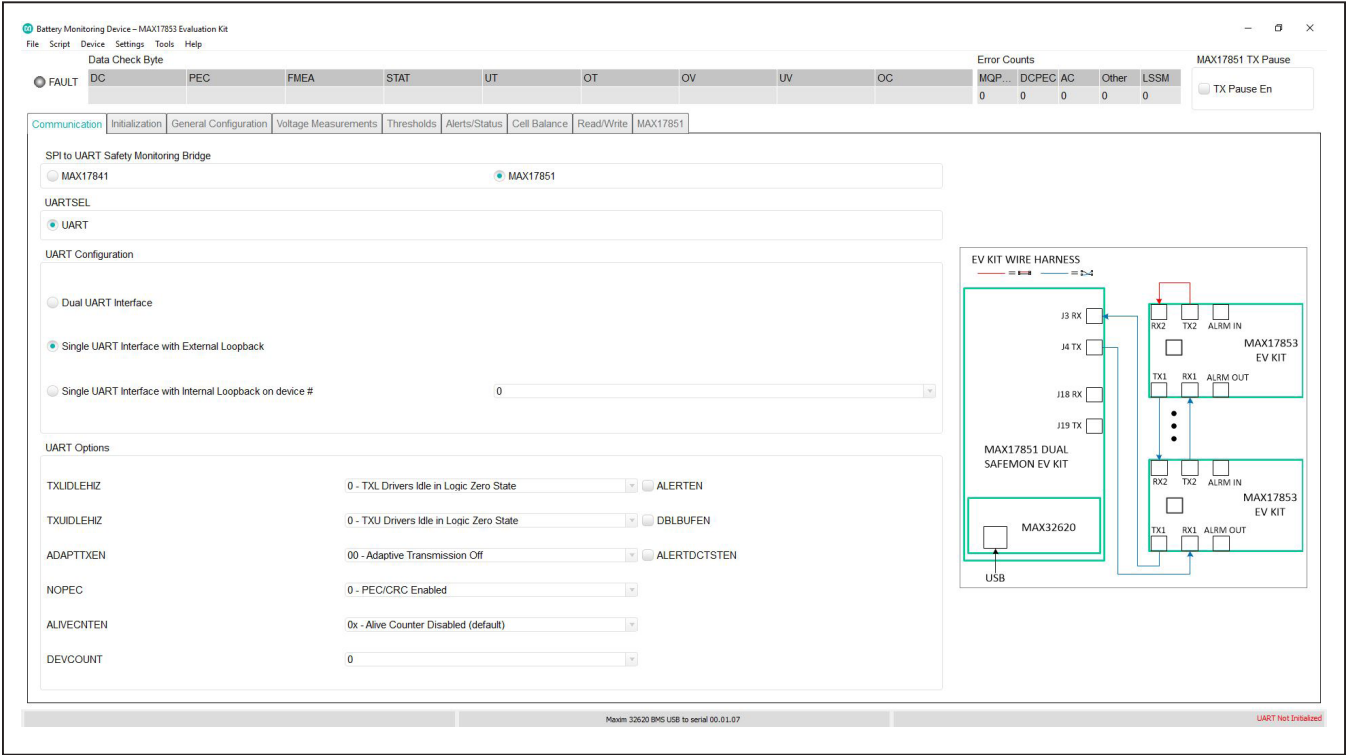

Figure 24. Communication tab
- 4) Start the MAX1785X EV KIT software by opening its icon in the Start Programs menu. The EV kit GUI software automatically establishes communication with the MAX32620 interface. The status bar at the bottom of the GUI displays **Maxim 32620 BMS USB to serial 00.01.xx** and **UART Not Initialized** (see Figure 24). With the MAX32620 detected, the user can proceed to the next step.
- 5) In the **Communication** tab (Figure 24), select the **MAX17851** radio button.
- 6) Click on the **Dual UART Interface** radio button (Figure 24).
and establishes communication with the MAX32620 interface board and places the user on the **Communication** tab (see Figure 24). UART status is shown in the lower-right corner of the cockpit.
The GUI is preset to UART communication with a dual UART interface (see Figure 24). When selecting the UART configuration, the hardware graphic updates to reflect the proper wiring interface for the selected UART. To enable the **MAX17851** tab, the user must select the **MAX17851** radio button.